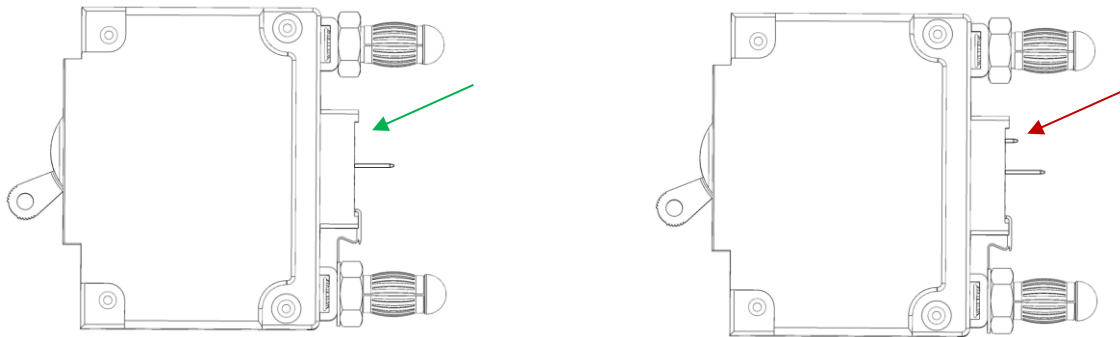

Figure 1 – Shows the comparison between a trimmed breaker with a flush top pin (left) and non-trimmed breaker (right)
To reduce the risk of generating a false alarm, ensure the top pin of the breaker is **trimmed properly** as shown in *Figure 1 (left)*.
1. Using the flush cut pliers cut the top pin (normally closed) of the non-trimmed breaker as shown in *Figure 1 (right)*.